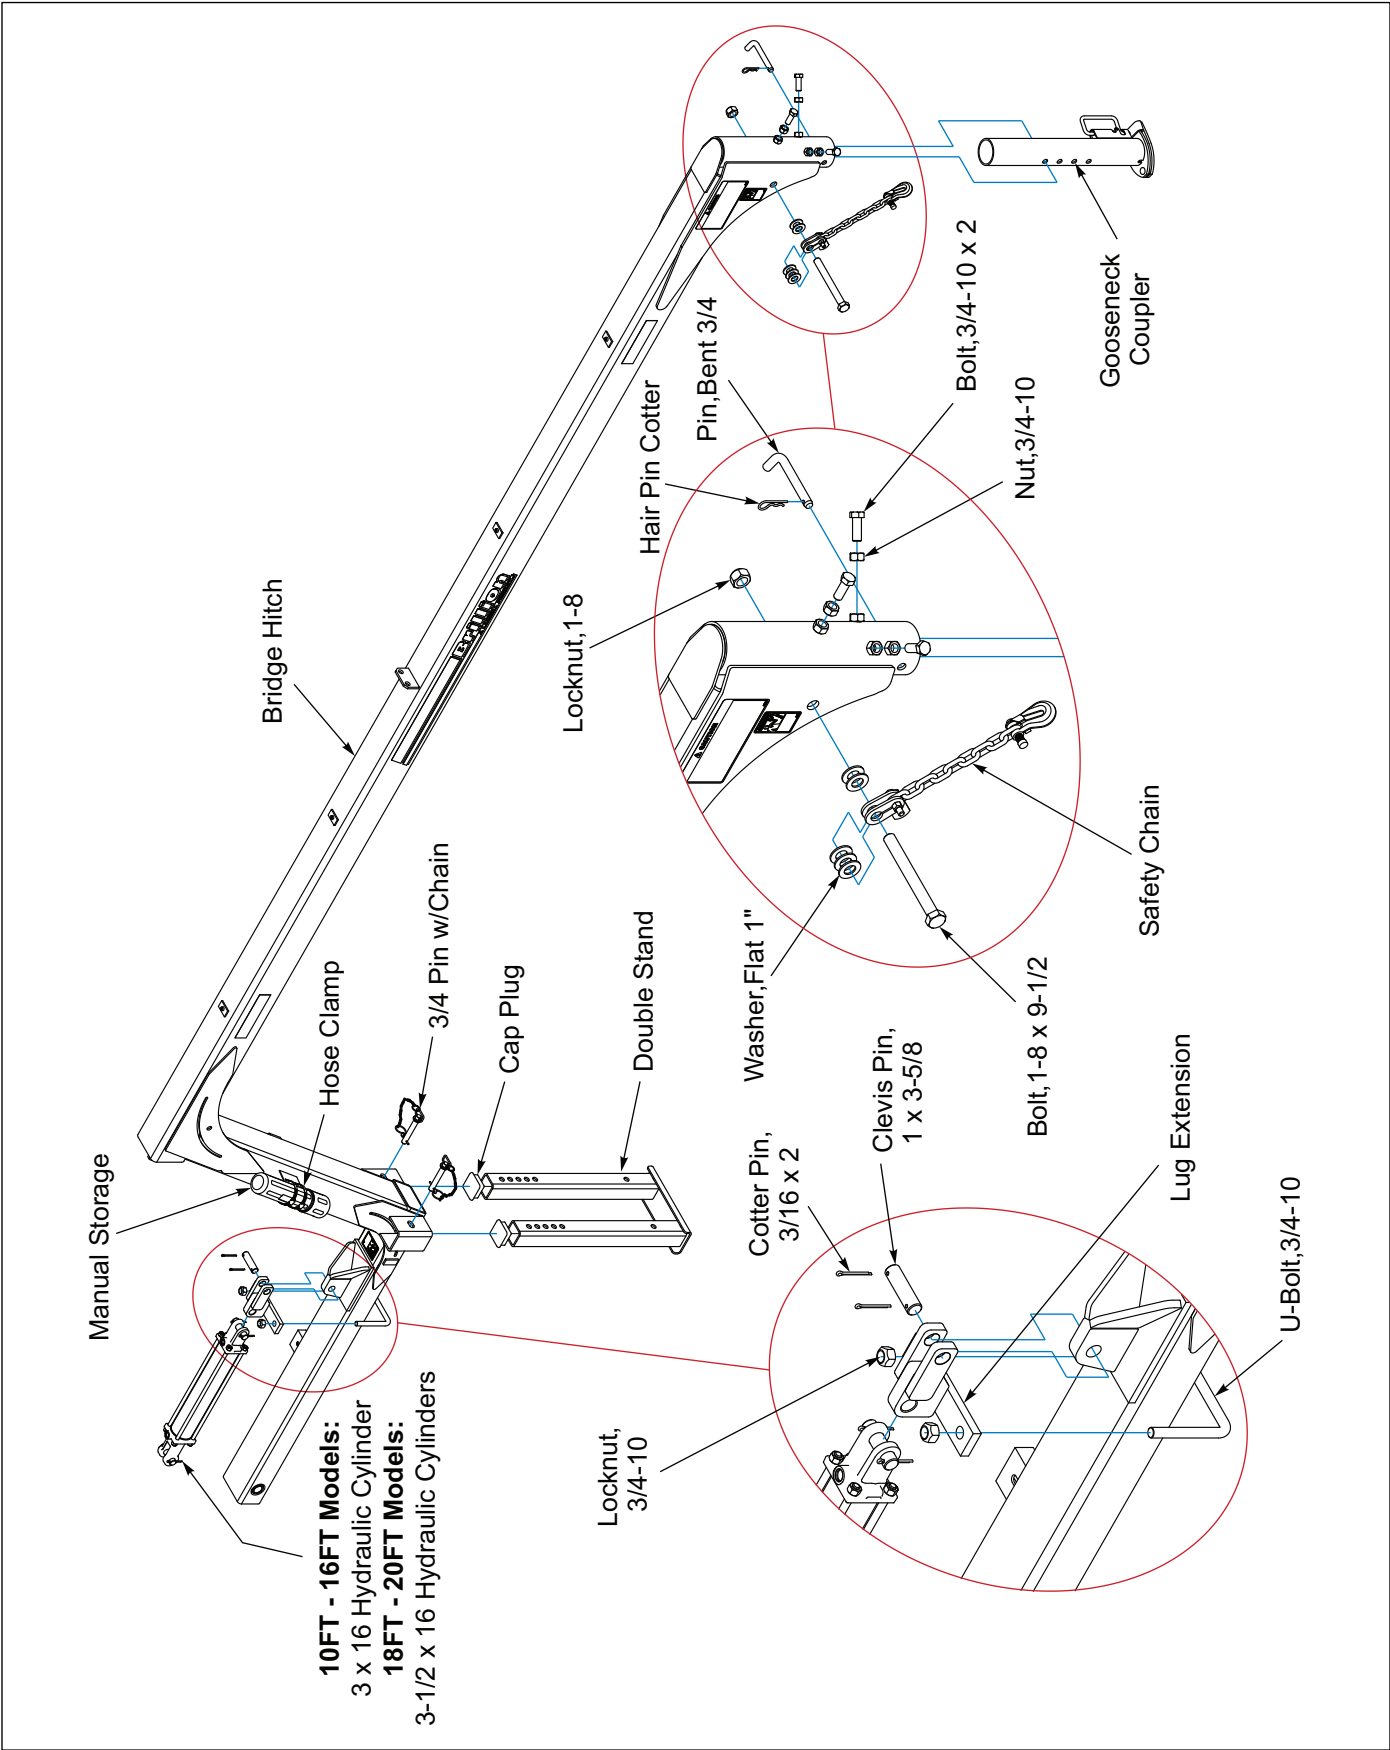

Figure 2-14: Bridge Hitch Installation
2. Thread a 3/4-10 Nut halfway onto each 3/4-10 x 2 Bolt. Screw them into the 3/4-10 welded nuts on the Gooseneck tube. Snug the Bolts up against the Gooseneck Coupler, turn the 3/4-10 Nuts so they are tight against the welded 3/4-10 Nuts. **See Figure 2-14.**